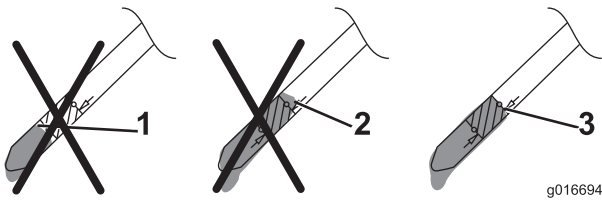

Figure 15
5. Remove the dipstick and read the oil level; refer to Figure 15.